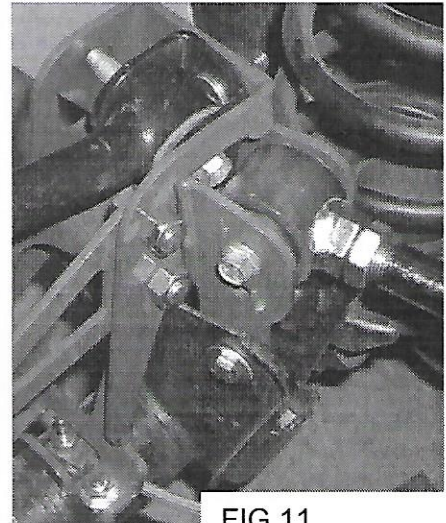

FIG 11
**Step 8: Attach Track Bar to Tower Clevis.** With the brace installed, you can now drop the track bar into the clevis for the final time. If the track bar bushing and tower clevis holes don't line up side-to-side, you will need to pry or pull them into alignment manually (or with a helper or a ratchet strap). Once aligned, insert the original frame-end bolt from whichever side is possible (for the +6.0" position, you must insert from the front side), then add the original 'flag nut' and tighten. **Figure 11** shows an example installation.
To determine which set of LRUCA holes is correct for your installation, consult the table below. Note you must be using adjustable upper control arms that can extend longer than stock to set correct pinion angle. We recommend our adjustable rear upper arms (Nth20010 or Nth20011) as they are designed for the proper length range and can be adjusted on the vehicle without disconnecting either end. Once your LRUCA is located to the correct holes, install and tighten the original/stock UCA bolt, then tighten the three bolts holding the brace (one 3/8" and two 1/2"). The completed setup should look similar to **figure 11** (shown with LRUCA in upper hole).